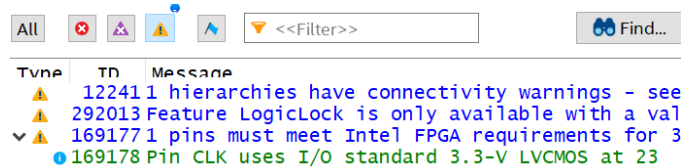

Figure 34
- a. It is acceptable to have some warnings like ones displayed on Figure 34